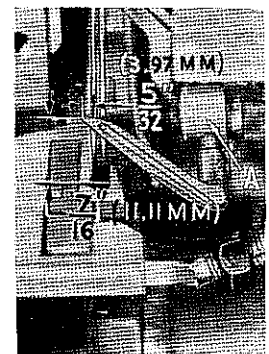

Fig. 8
Next, turn the handwheel until looper is at the left end of its travel. Check the dimensions of the upper looper point with respect to needle and throat plate (Fig. 8) and the following dimensions; distance from centerline of left needle to point of looper should be approximately  $\frac{5}{32}$  inch (3.97 mm) and distance from throat plate to point of looper should be approximately  $\frac{7}{16}$  inch (11.11 mm) on Style 39500 RB machine (Fig. 8).
**NOTE:** For Style 39500 RC-045 the dimensional setting of the upper looper point with respect to the center of the left is also  $\frac{5}{32}$  inch (3.97 mm), but the setting of the upper looper point with respect to the throat plate is approximately  $\frac{15}{32}$  inch (11.91 mm). If resetting is necessary, do so by moving the upper looper holder (A, Fig. 8). Figure 8 represents the dimensional setting for Style 39500 RB.
Check setting to avoid interference between upper looper and needles on needle down stroke. If needles rub the back of upper looper, pull looper out of its holder slightly and rotate a short distance counterclockwise, looking from left end of machine. Reset to maintain dimensions suggested above and in Figs. 8 and 9.